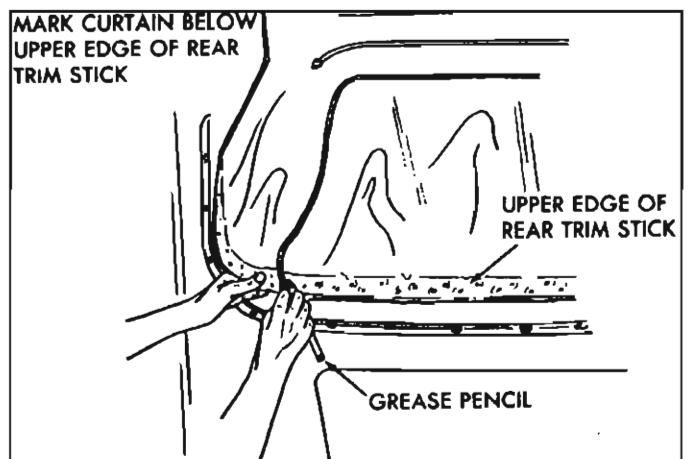

Fig. 44—Locating Edge of Top Material
10. To establish relationship of right and left inner vertical edge of old top material to back curtain assembly at rear trim stick location, mark back curtain vinyl at both locations with a grease pencil (fig. 44). Reference marks should be transferred to new back curtain when step 7 of installation procedure is performed.